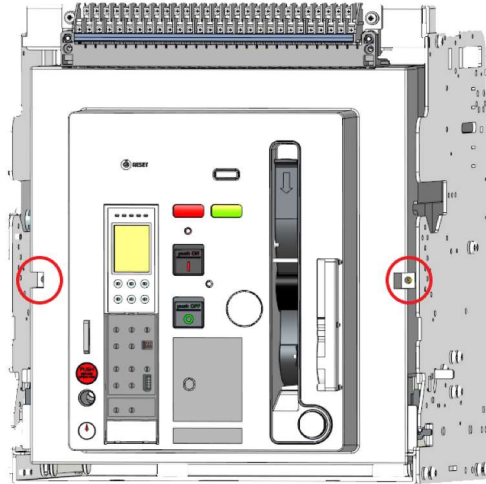

FIG 1
1. Cover 속의 M6 screws를 움직여 front cover를 제거하시오. [Fig.1]
1. Remove the front cover by removing all M6 screws in cover. [Fig.1]